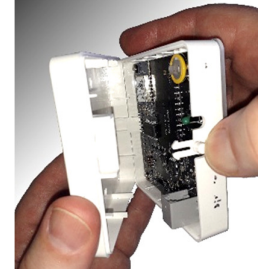

Fig 12
**Step 1** Press release button on side of Controller control case and pull the back case away (see Fig 12).
**Step 1** Press release button on side of Controller case and pull the back case away (see Fig 12).